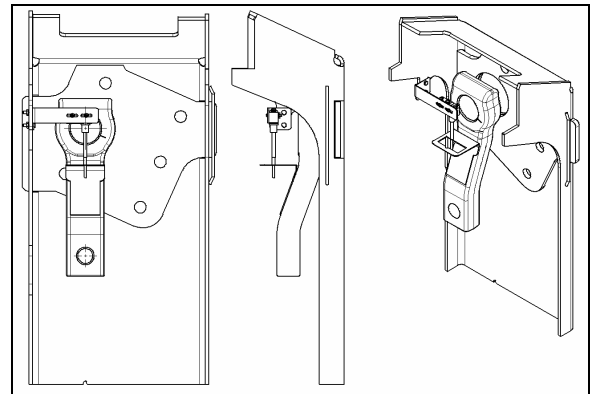

FIGURE 8: TAG AXLE UNLOADING SWITCH ADJUSTMENT
2. Line up switch lever with reference to the bracket center (Refer to figure 8).